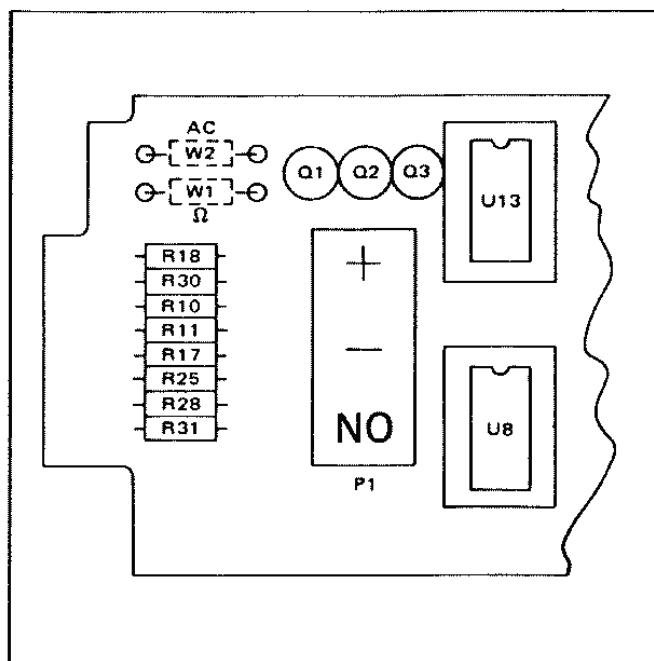

Figure 2.17 - Jumper Location
2.111 When an option is added or removed from the instrument, a jumper corresponding to the option is removed or added to allow proper operation of the NO circuitry. The two jumpers (W1 Ohms and W2 AC) are located on the display board, shown partially in figure 2.17. When an option is added, the corresponding jumper is removed; conversely, when an accessory is removed, the jumper is added.